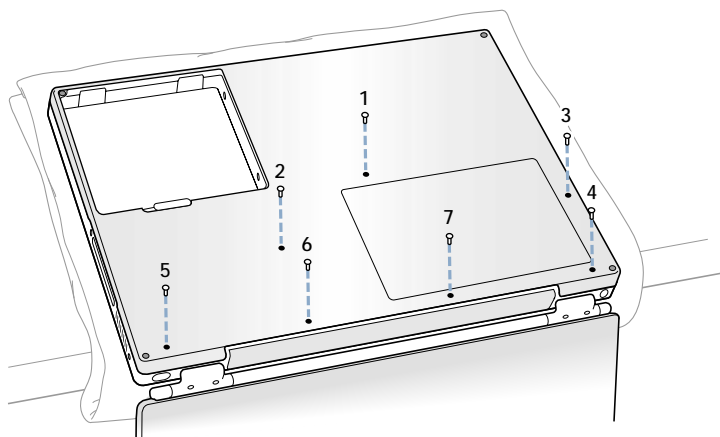

Figure 3
7. Use a Torx T8 screwdriver to remove the seven bottom case screws in the order shown (**Figure 3**).